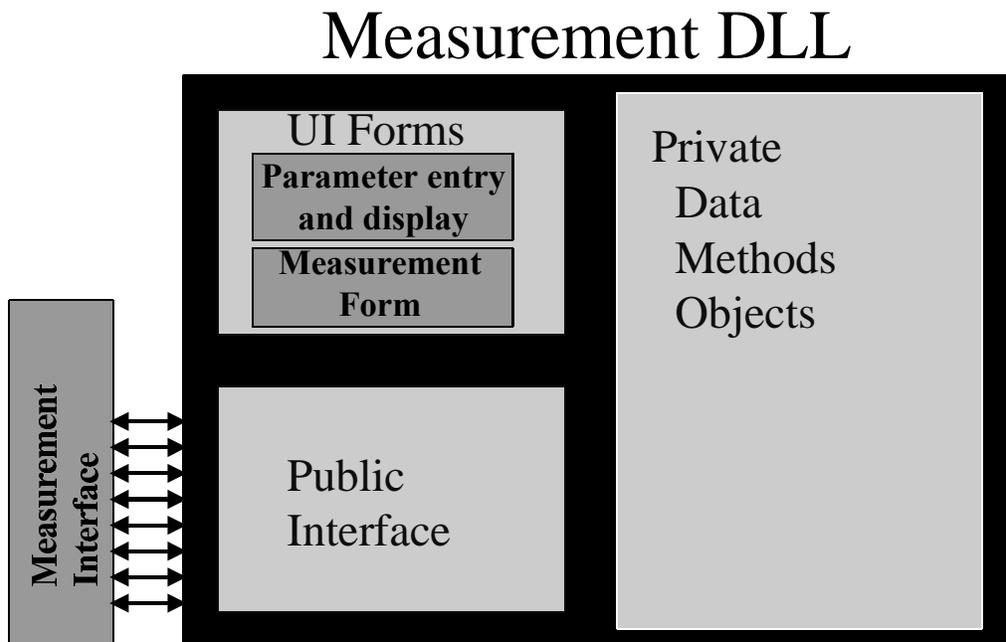

Figure 1
**I. MEASUREMENT METHOD COMPONENT:** The measurement-method component will be implemented as shown in Figure 1 and sectioned into the three sections as follows: